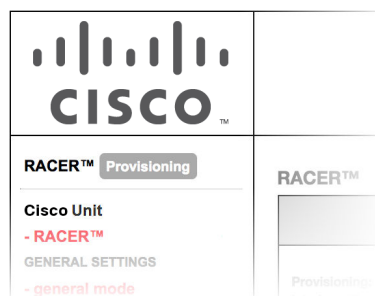

Figure 15. Racer status icon (Provisioning Mode)
- Check that the unit is in Provisioning Mode by looking at the colored icon to the right of the **RACER™** tag in the upper left-hand corner of the screen (Figure 15 \(page 52\)).